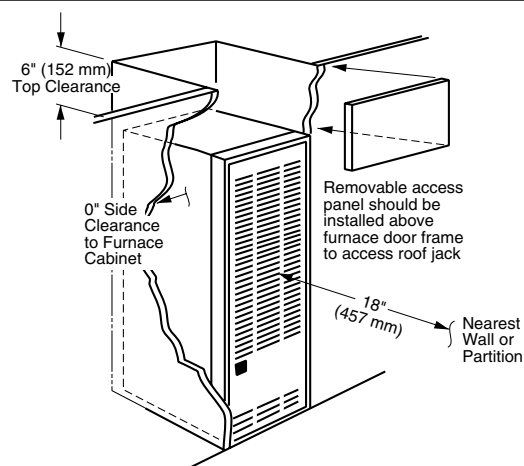
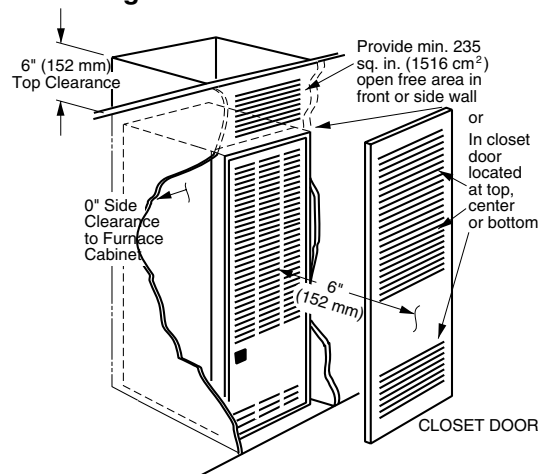
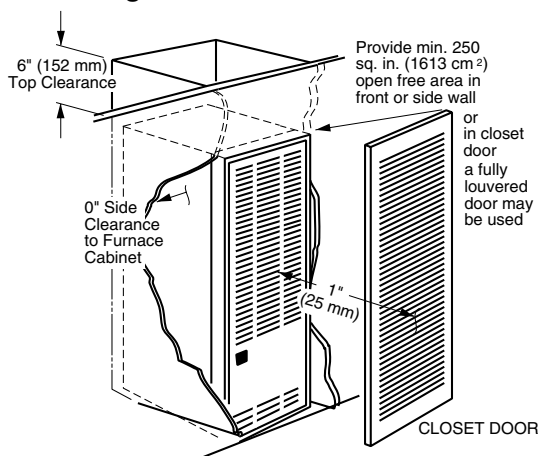

Figure 1. Alcove Installation
Figure 2. Closet Installation
Figure 3. Special 1" Clearance
This heating appliance must be installed with clearances not less than the minimums listed in Table 1, \(page 5\). This furnace must be installed with ample clearance for easy access to the air filter, blower assembly, burner assembly, controls, and vent connections. See Figure 1, Figure 2, and Figure 3 \(page 5\).
- The dimensions of the room or alcove must be able to accommodate the overall size of the furnace and the installation clearances listed in Table 1, (page 5) and Figure 1 (page 5)